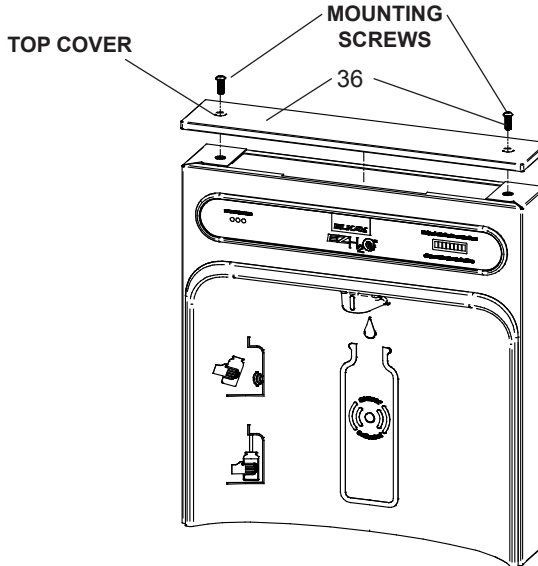
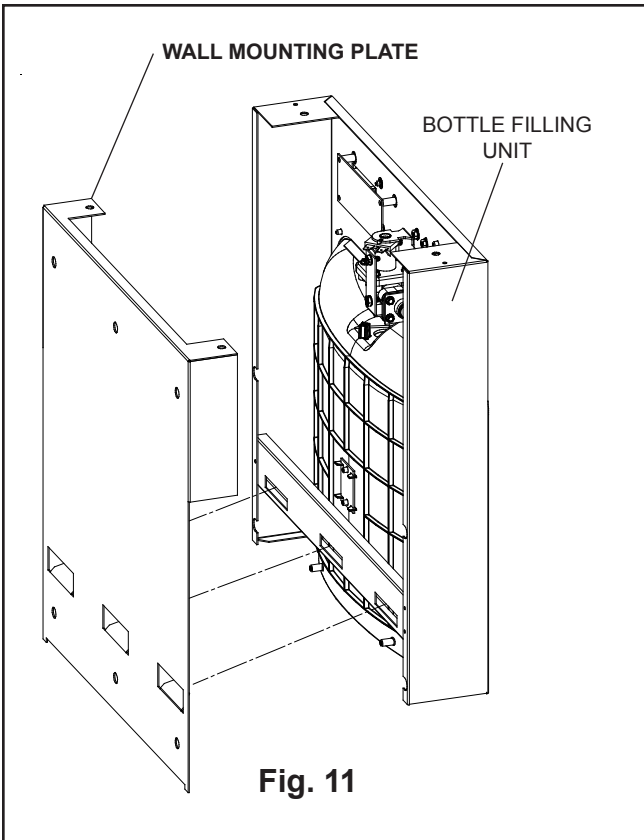

Fig. 8
Fig. 11
- 8) With the power cord and waterline through hole on top of water cooler place Bottle Filler on the three (3) angled tabs protruding from the wall mounting plate installed on wall. Make sure round boss in gasket fits in hole of basin. (See Fig. 11).
- 9) Once Bottle Filler is installed on wall plate tabs, water line and power cord are installed properly, push top of Bottle Filler toward wall and line up top cover two (2) holes.
- 10) Reinstall Top Cover on Bottle Filler (See Fig. 8) with two mounting screws from step 1 above. Caution, do not over tighten screws.